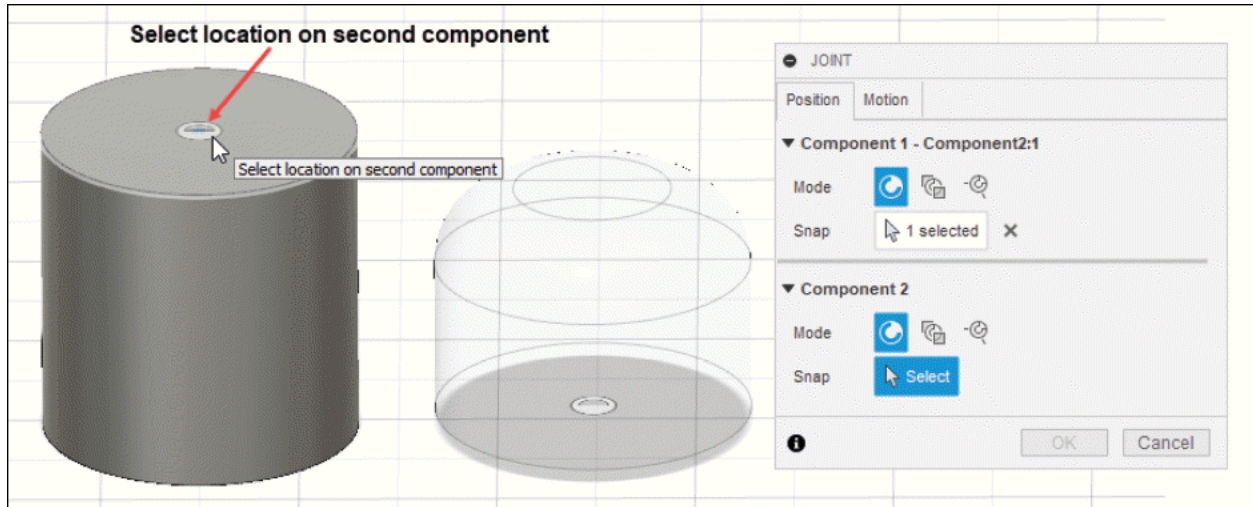

Figure-13. Selection of component 2 location
- Click on the second component on mating location to select; refer to Figure-13.